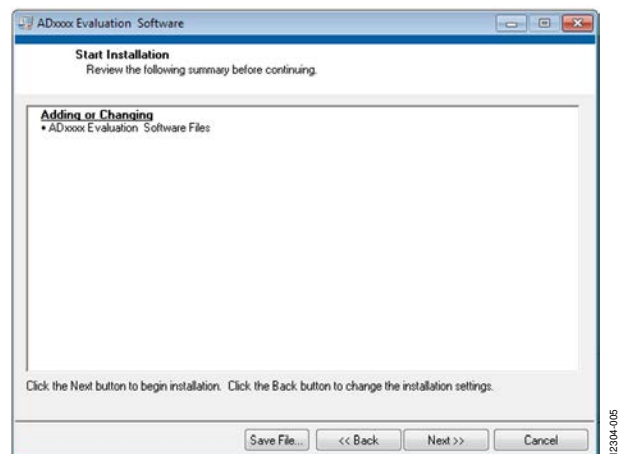

Figure 5. Evaluation Software Installation—Start Installation
6. A summary of the installation is displayed. Click **Next** to continue (see Figure 5).